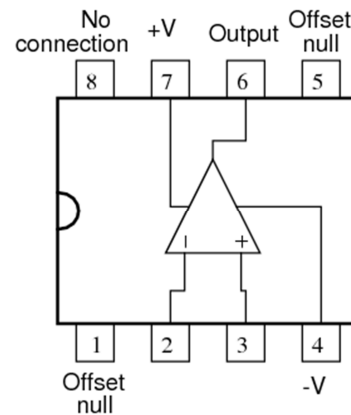

FIGURE 1
The pinout for a basic 8 pin op-amp, known as a single package, can be seen in Figure 1. There are also dual and quad packages that have two and four op-amps in one integrated circuit (IC). Pins 4 and 7 are the negative and positive power supply pins commonly known as. The voltage ranges can be found in the specific datasheet for the op-amp, but it is important to remember that output voltages can never exceed the power supply voltage. Pin 3 is known as the non-inverting input, Pin 2 is the inverting input, and Pin 6 is the output. These pins are used for the basic function of the op-amp. The remaining pins are for more advanced input offset correction features.